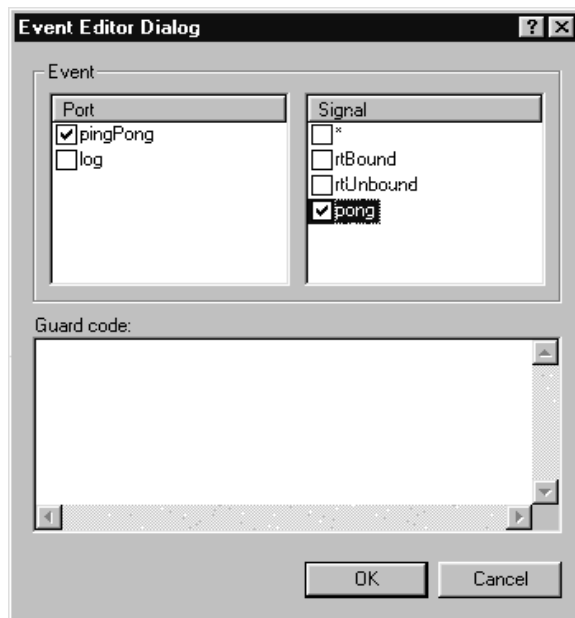

Figure 22 *Selecting the port and signal*
14. Select the pingPong port and the pong signal from the resulting Event Editor dialog as shown in Figure 22 and click the **OK** button.